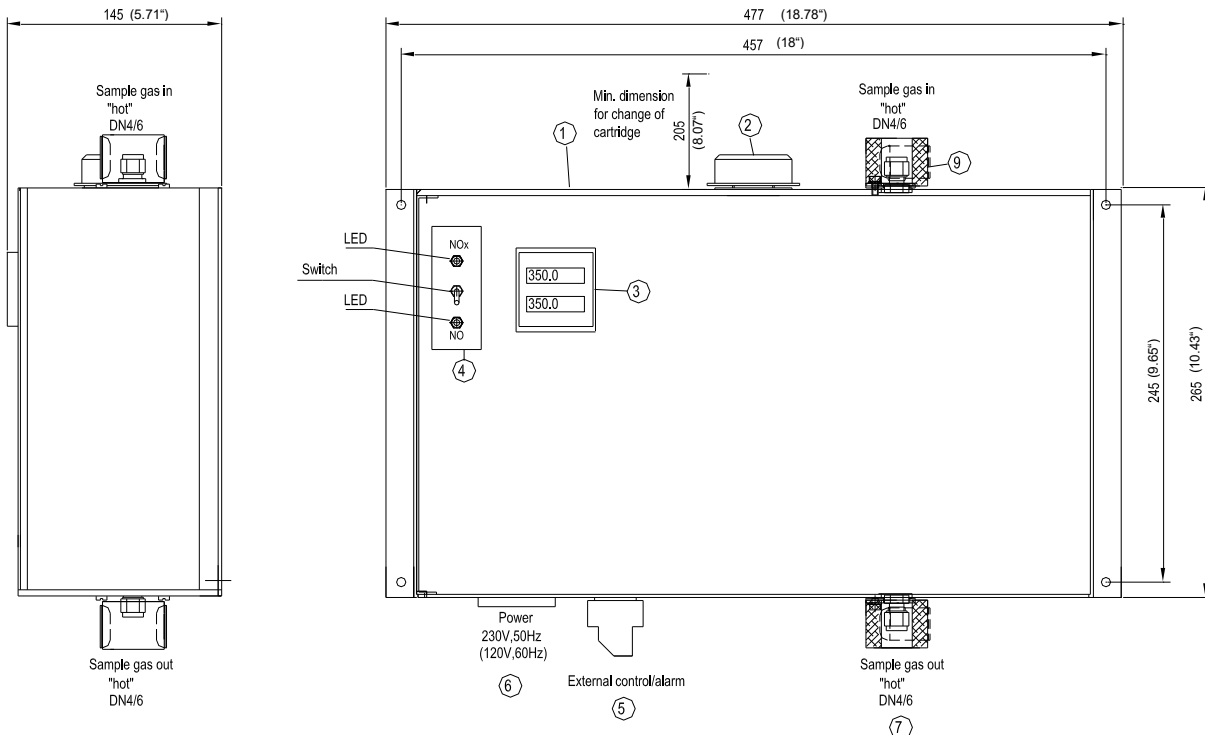

Figure 5 CG-2H-W and CG-2MH-W
Figure 5 shows the conversion unit versions **CG-2H-W** and **CG-2MH-W** in a wall mounting housing.
The M&C gas converters type **CG-2H-W** and **CG-2MH-W** are executed in a compact, user-friendly and easy to service manner for wall mounting ① (figure 5).